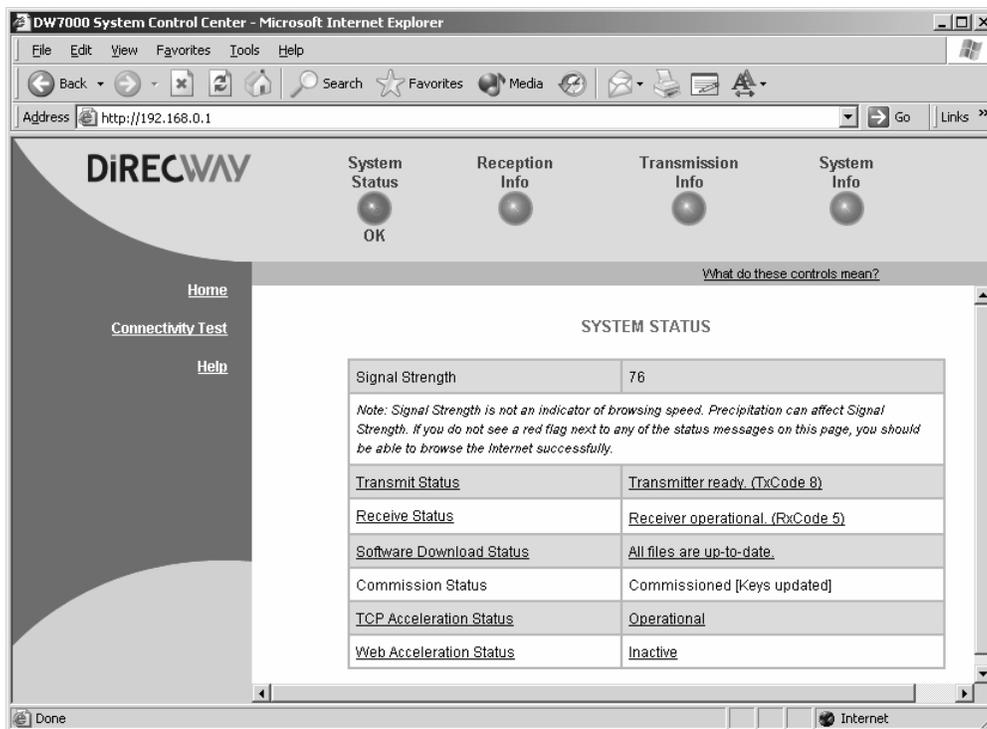

Figure 84: Confirming TCP Acceleration is operational
1. At the System Control Center, click the **System Status** indicator. The System Status page appears. See Figure 84.